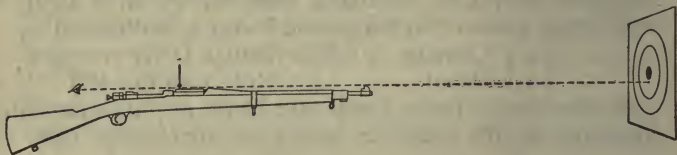

FIG. 5.—Line of Sight.
**51. LINE OF SIGHT** is the line of vision from the eye, through the middle of the rear sight notch, at its top, (or the center of the peep), touching the top of the front sight and thence continuing to the mark. (Fig. 5.)